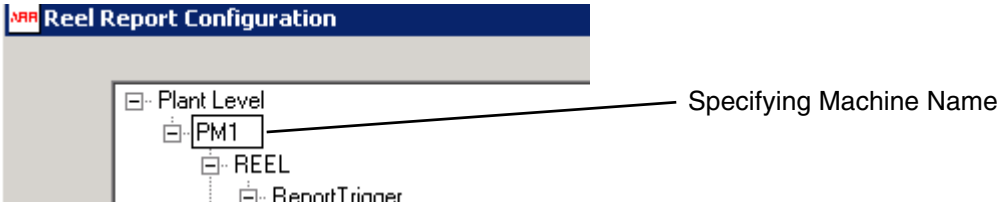

Figure 213. Specifying the New Machine Name
- 2. Specify the machine name. To do this, click on **Machine Name**, and then enter a new name, for example: **PM1**, Figure 213. This machine name must also be used as the name for the log set to which all profile logs for this machine will be assigned.